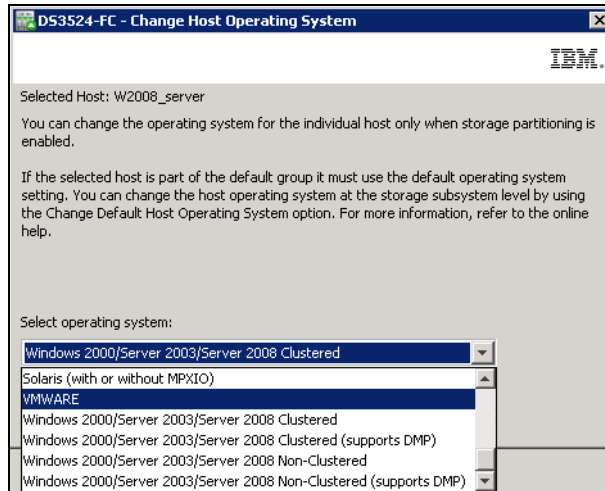

Figure 11-25 Change host type
1. Right-click the host on which operating system has to be changed in the Topology tree and select **Change Operating System**. The window shown in Figure 11-25 on page 295 opens.